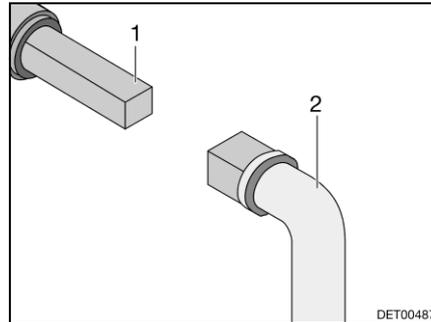

Fig. 127 Operation of the waste water tap
- Place key (Fig. 127,2) onto the square bolt (Fig. 127,1).